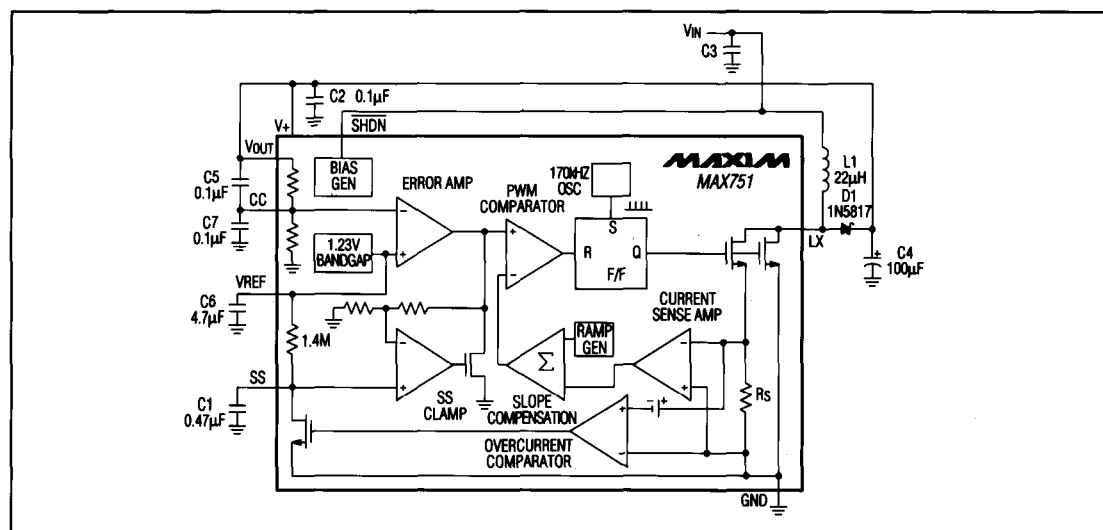

Figure 1. Detailed Block Diagram with External Components, Bootstrapped Mode
(Circuit of Figure 1, VIN = +3V, ILOAD = 0mA, TA = TMIN to TMAX, typical values are at TA = +25°C, unless otherwise noted.)
(Circuit of Figure 1 in bootstrapped mode, L1 = 22μH, TA = +25°C, unless otherwise noted.)
(Circuit of Figure 1 in bootstrapped mode, $L_1 = 22\mu\text{H}$, $T_A = +25^\circ\text{C}$, unless otherwise noted.)
(Circuit of Figure 1 in bootstrapped mode, L1 = 22µH, TA = +25°C, unless otherwise noted.)
The controller consists of two feedback loops: an inner (current) loop that monitors the switch current through the current-sense resistor (RS) and amplifier, and an outer (voltage) loop that monitors the output voltage with an error amplifier (Figure 1). The inner loop performs cycle-by-cycle current limiting, truncating the power transistor on time when the switch current reaches a threshold determined by the outer loop. For example, a sagging output voltage produces an error signal that raises the threshold at the error amp output. This allows the inductor current (which generates the current-sense amp output voltage) to increase, resulting in more energy stored and transferred during each cycle.
The Soft-Start (SS) pin limits power-up current, allowing proper start-up with a load on the output. On power-up, the MAX751 uses the maximum switch duty cycle to draw excessive current to charge the output filter capacitor, and supply current to the load. In this case, the device may stall and the output voltage will not rise to 5V. A capacitor (between 0.047µF and 5µF) is required on SS to ensure proper start-up. The larger the capacitor, the slower the internal current-limit threshold is raised, allowing more time for start-up. As the voltage on the SS pin increases, the voltage at the SS clamp output increases, which in turn increases the current-limit threshold (Figure 1).
Use a Schottky diode with a continuous-current rating of at least 500mA for full-load (≥ 200mA) operation. The 1N5817 is a good choice. The two compensation capacitor values at the CC input are critical because they have been selected to provide the best transient response. The input capacitor (C3 in Figures 1, 2, and 4) may be omitted if the power supply impedance is very low. Otherwise, up to 100μF may be necessary.
The power-up SS charge rate is determined by the time constant formed by the SS capacitor and the internal $1.4\text{M}\Omega \pm 25\%$ resistor between VREF and SS (Figure 1).